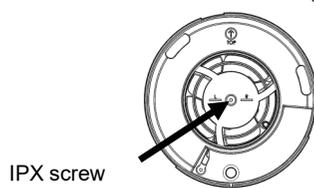

Fig. 5
- Remove the IPX cover by undoing the screw in the centre. Lift the IPX cover off. (Fig. 5)